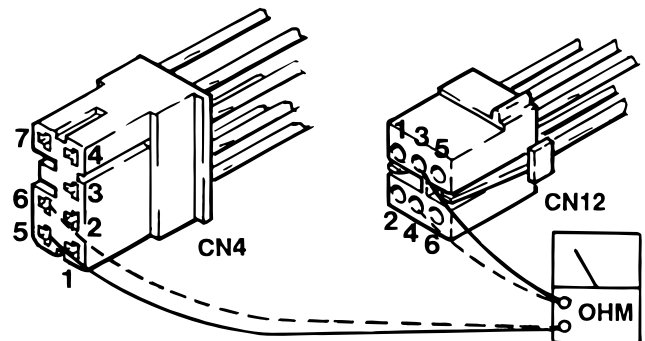

Figure 6-19.
2. Using an ohmmeter, test for continuity between pins 5 and 6 of CN4 and pins 3 and 4 of CN12. See figure 6-19.